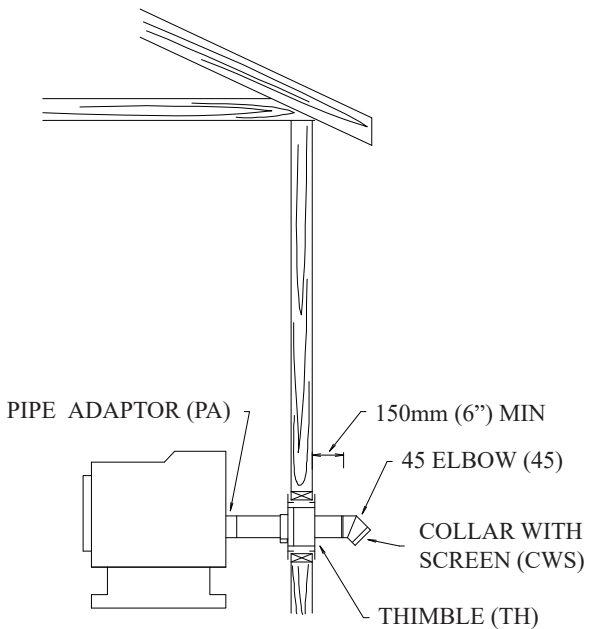
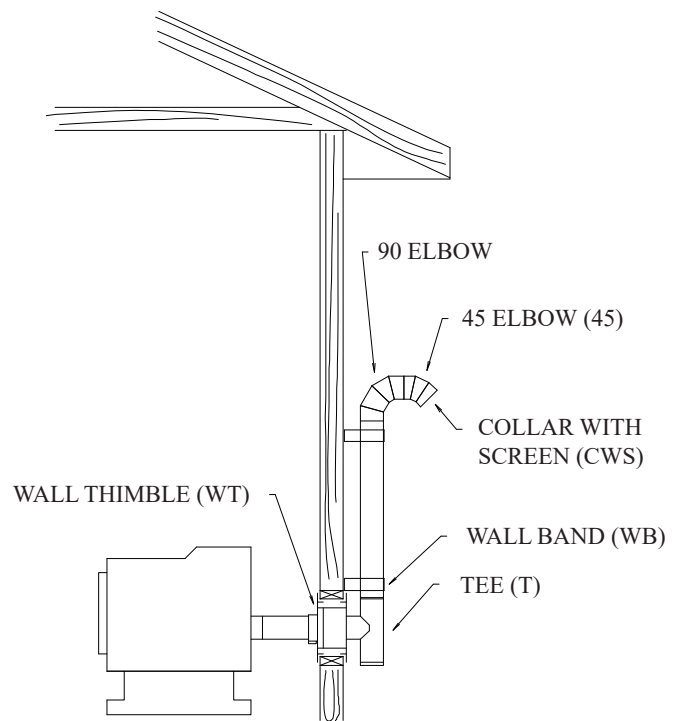

FIGURE 4
FIGURE 7
2.1 General VENT layout is shown in Figures 4 and 7.
- 2.11 There are two alternative vent terminations. A 45 degree ELBOW may be used together with a COLLAR WITH SCREEN as shown in Figure 4, or as shown in section 4 and Figure 7.
4.3 Attach a 45 DEGREE ELBOW to the 90 DEGREE ELBOW, aiming the second elbow down toward the ground. Terminate the vent with a COLLAR WITH SCREEN fastened to the 45 DEGREE ELBOW (see Figure 7).